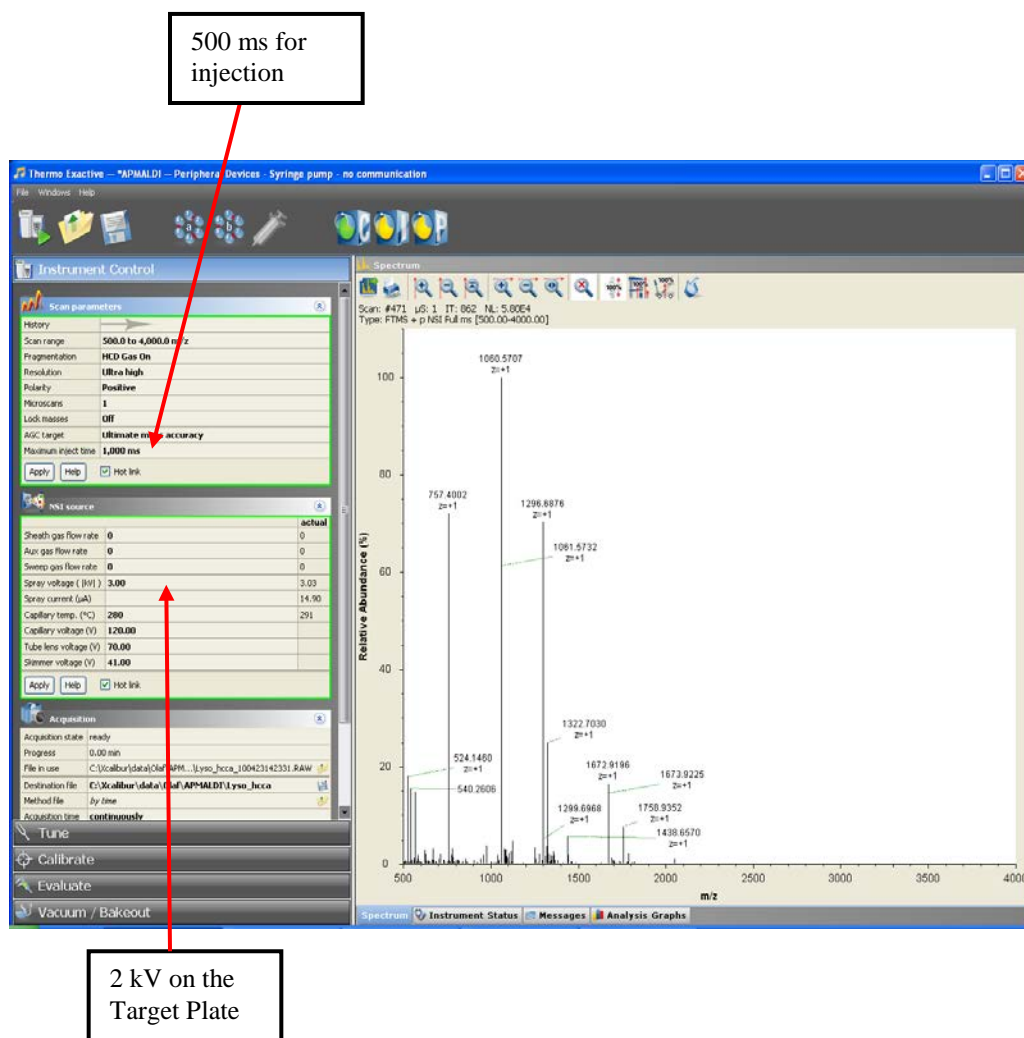

Figure 7.17. Good Parameters for the Capillary HV (2000 V) and Injection (Accumulation) Time (500 ms)
- Typical parameters that represent a good starting points for the Sub-AP/MALDI measurements are shown in Figure 7.17.
- Fig. 7.17 represents a screen copy made during an Sub-AP/MALDI spectrum measurement of CHCA matrix. The operator can easily switch between the *XCalibur* and *TARGET* Programs to operate both the MS and Sub-AP/MALDI source from the same computer. An alternative method for the operator is to run the program on separate computers.